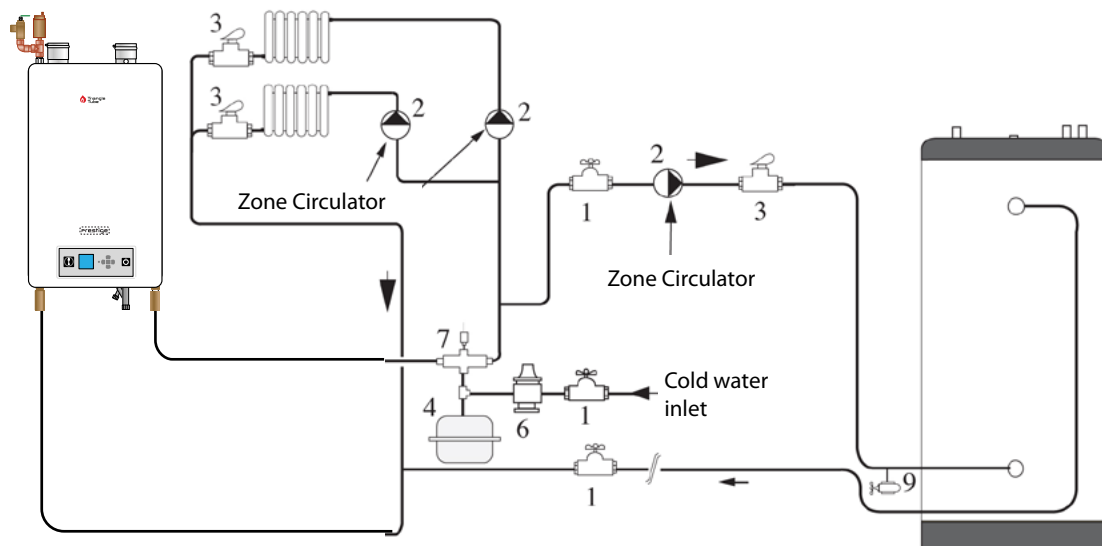

Fig. 5 - SMART System Piping with Zone Circulators
- For Boiler water piping, refer to *Fig. 7 on page 11 thru Fig. 10 on page 13 Fig. 5 on page 10*.